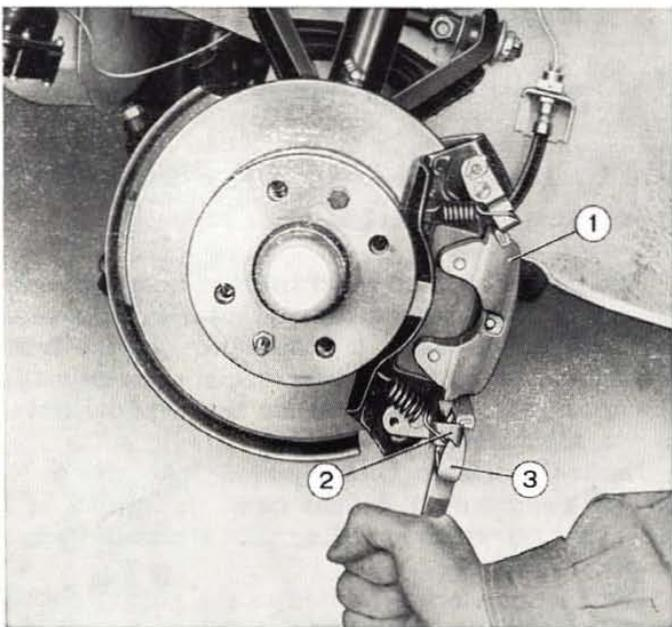

Fig. 450 - Tipping caliper mounting bracket clamps.
- using tool A. 72238, tip caliper bracket and remove the caliper (fig. 450);